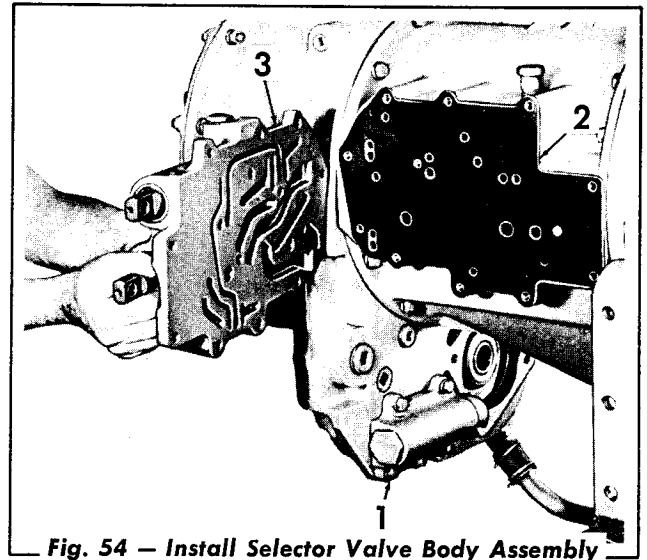

Fig. 54 — Install Selector Valve Body Assembly
18. Install the five pressure regulator valve body capscrews and lockwashers (Fig. 54). Using oil soluble grease, install the gasket. Install the selector valve body assembly and secure the valve with eleven capscrews and lockwashers.